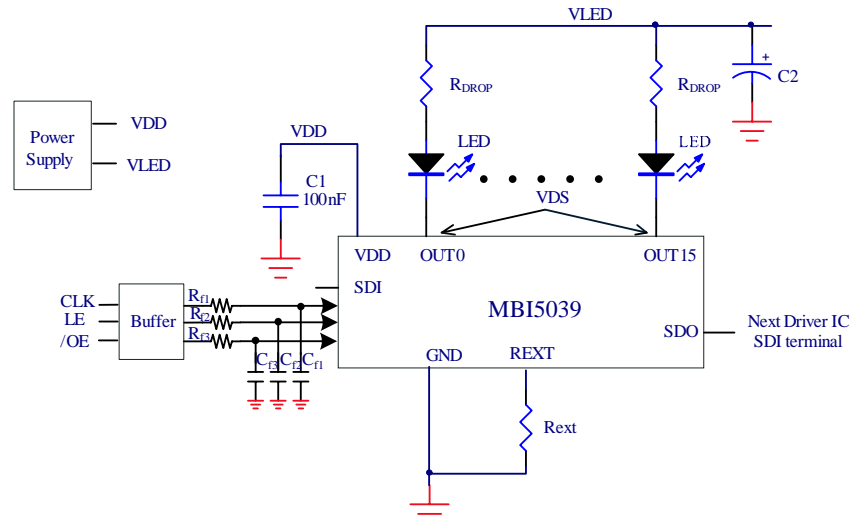

Figure 1. MBI5039 application circuit
Figure 1 is the application circuit of MBI5039, which is compatible to MBI5025/5026/5027/5028/5029.
The value of V_{LED} is usually a concern when using constant current driver IC. If V_{DS} , as Figure 1 shows, is higher than the saturated (knee) voltage of constant current, it will cause overheating. However, if there is no sufficient voltage for output, the current of the output will not be constant. The suggestions for circuit design are below:
If the V_{LED} is an integer voltage (ex. the voltage of transformer is usually an integer one), the extra voltage (V_{DROP}) needs to be consumed by the drop-down resistor (R_{DROP}) cascaded with LEDs as shown in Figure 1. The value of the resistor can be calculated by following (3) and (4).